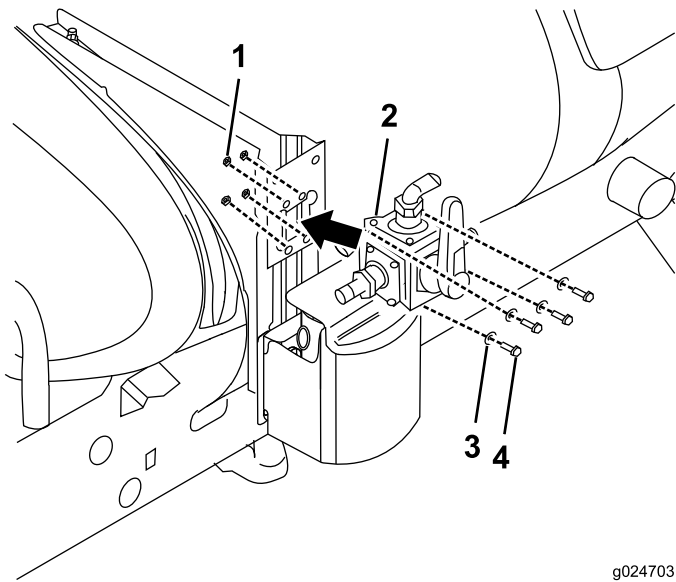

Figure 26
3. Assemble the 4-way valve onto the valve mount (Figure 26) with 4 locknuts (6 mm).